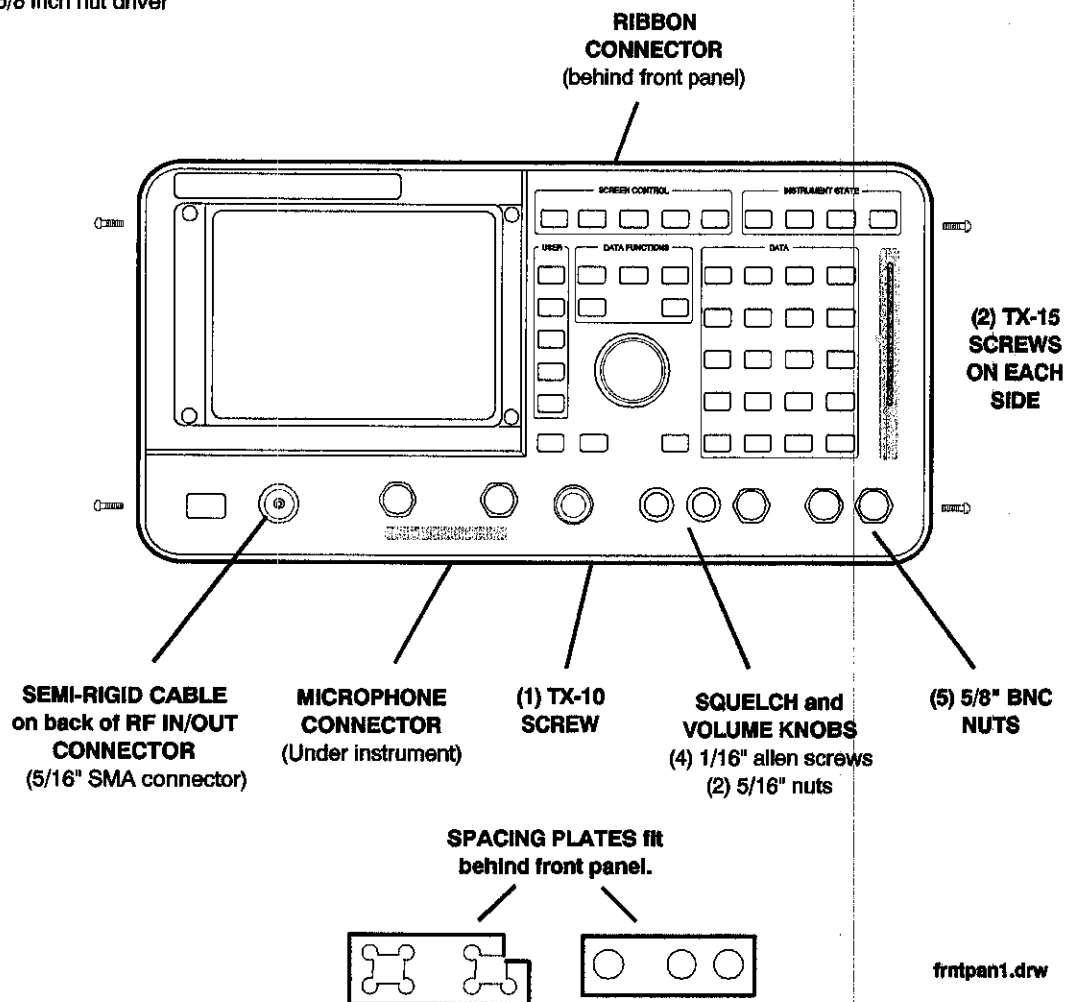

Figure 3-5. Front Panel
4. Remove the front panel (see Figure 3-5).
2. Remove the front panel (see Figure 3-5).